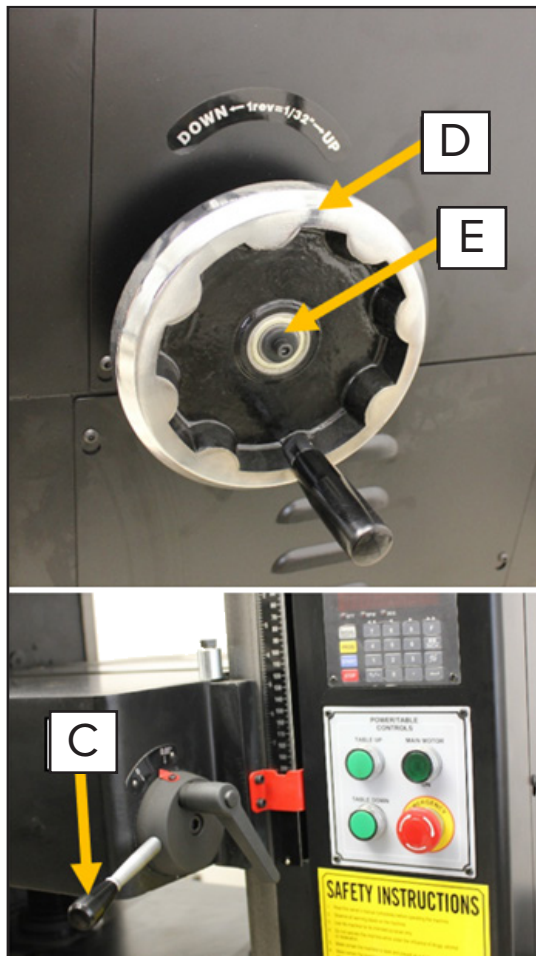

Figure 7: Installing the Handwheel and the Handle.
As for the handwheel D just insert it on its shaft and screw the cap screw E in until tight. Thread and tighten the table roller handle C on the table roller hub tightly, see figure 7 (D,E and C).
Turn the handwheel (D) figure 7 clockwise to raise the table and counterclockwise to lower it manually. One revolution is equal to 1/32" or 0.03". Note the handwheel is spring loaded you must push it in and turn until the pin engages the dents only then the table will move up or down.